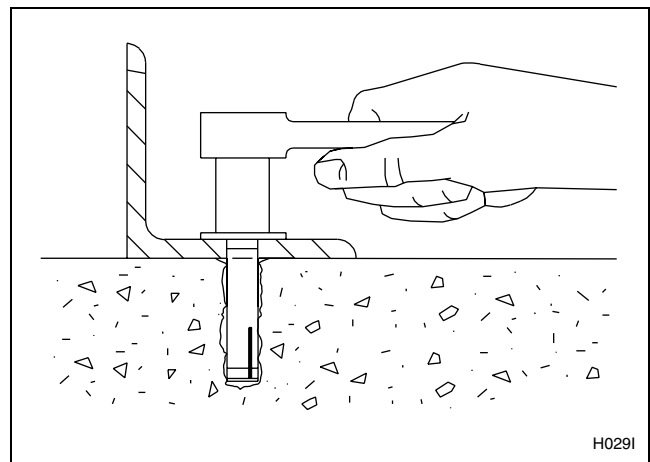

Figure 4
8. Secure the machine to the floor, using the bolts furnished with the anchors. Tighten the locknuts by even increments – one after the other – until all are tightened evenly and the machine is fastened securely to the floor. Refer to *Figure 4*.